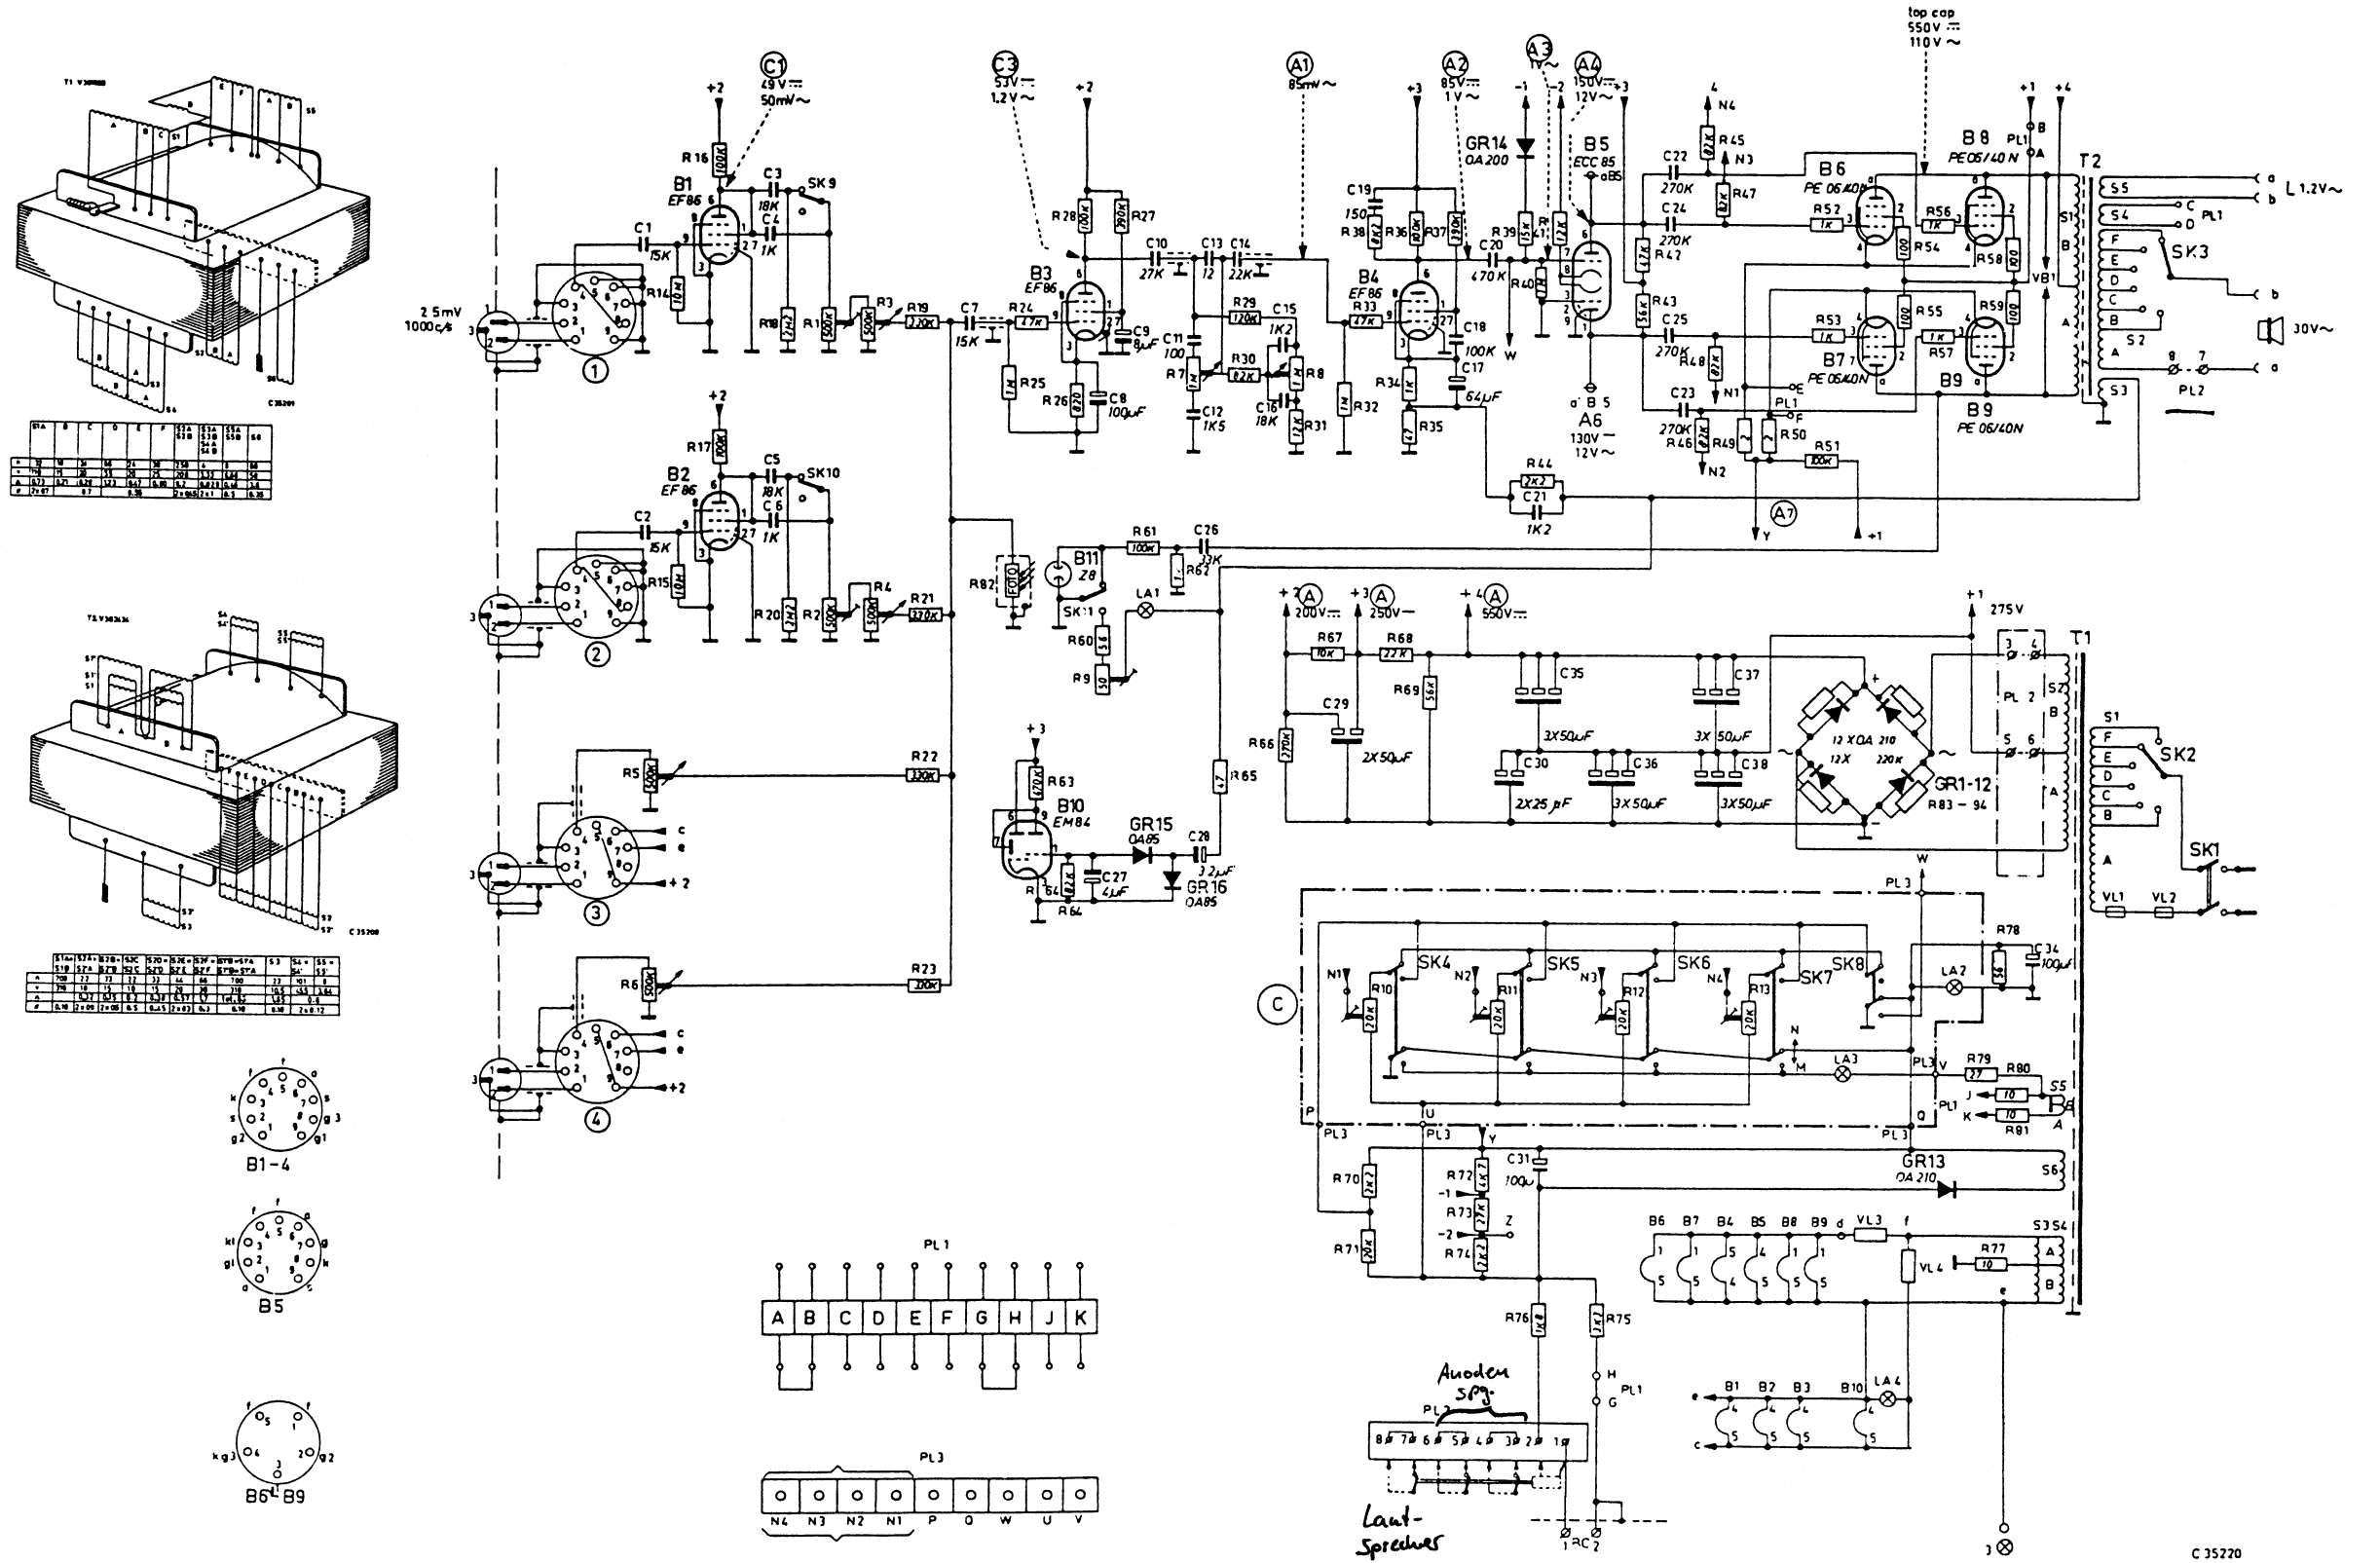

Fig. 1
In the position drawn in Fig. 1 the negative side of the bias supply is taken from the point of junction R70-R71 via measuring point P on PL3, via SK8 and delivered to R10...R13. The positive side of the bias supply (Y) is earthed via Q (PL3) and SK8, and thus the cathodes of the output valves.